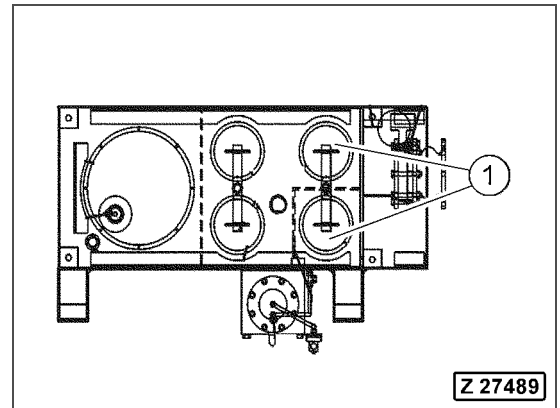

Fig. 3-151
- Open the cover (Fig. 3-151, Pos. 1) of the return oil filter.